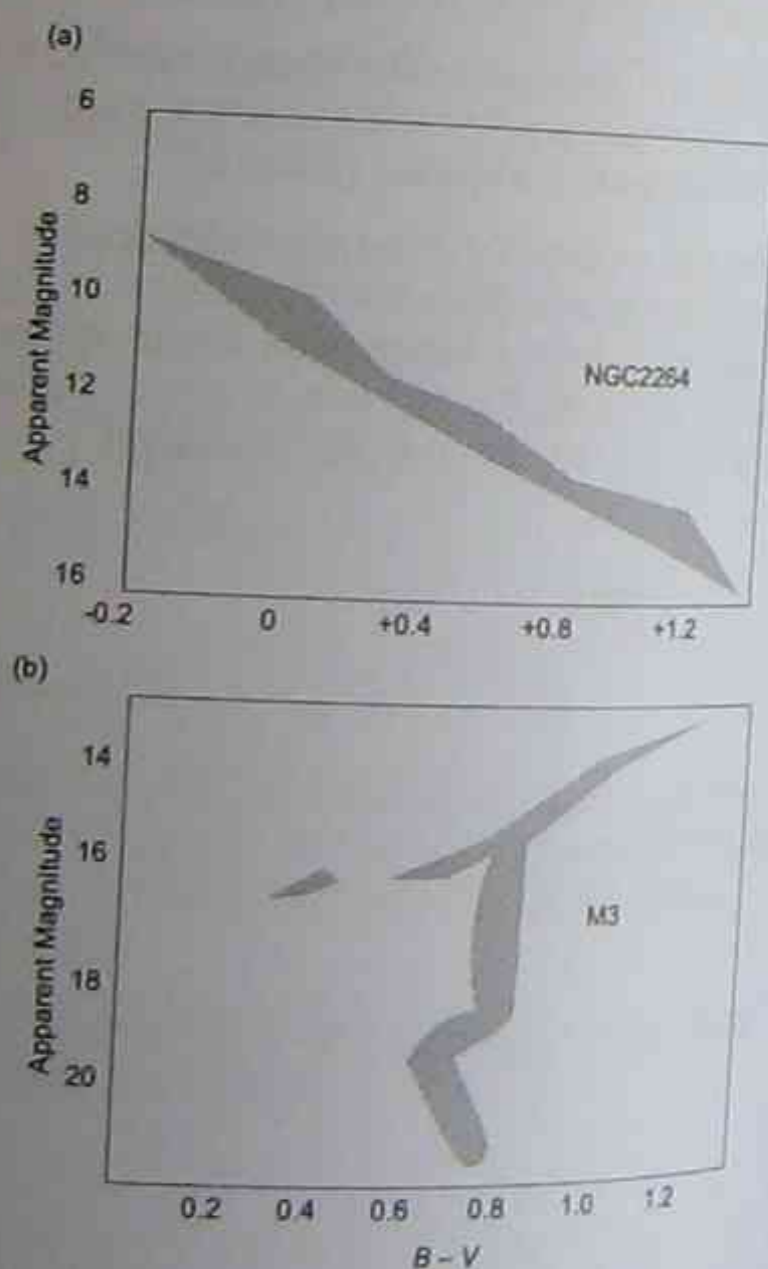

Figure 7.15
- (j) Figure 7.15 (a) and (b) are H-R diagrams for two clusters, NGC2264 and M3. One is an open (galactic) cluster and the other is a globular cluster.
- On Figure 7.15(b) indicate the position of a blue (B) star and a yellow (Y) star (like our Sun). (2 marks)